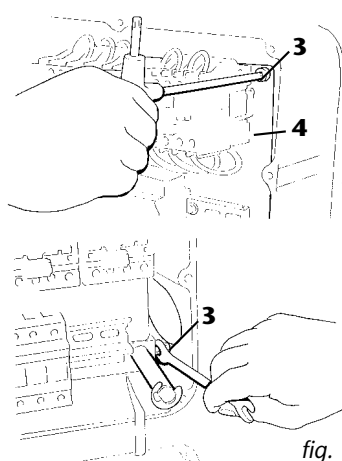

fig. 142
*Quarterly checking of the efficiency of the electrical control system (fig. 142):